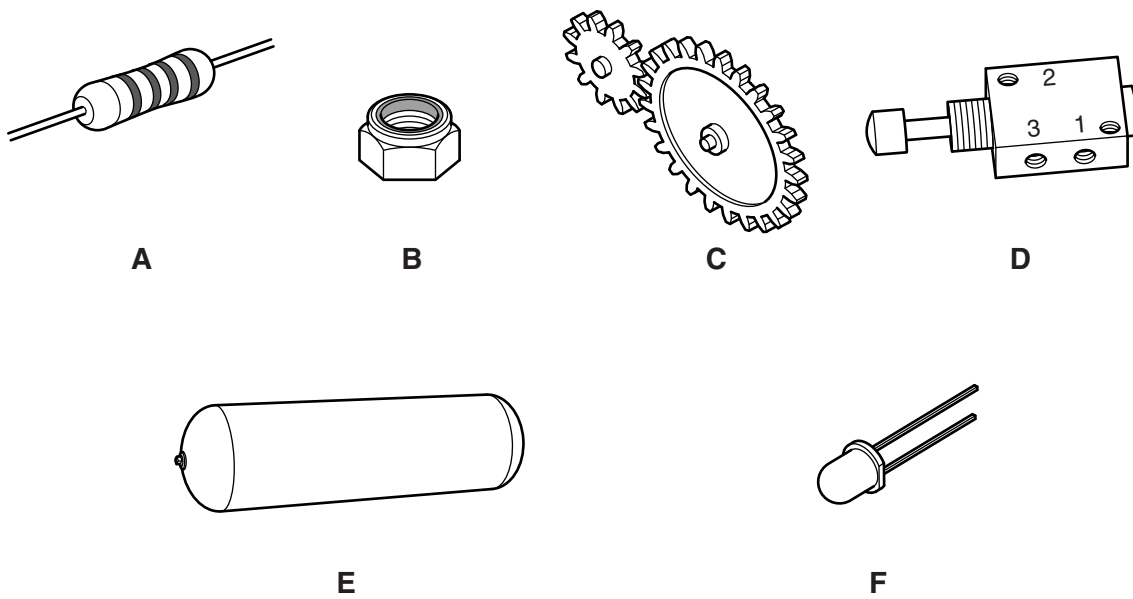

Fig. 1
4 Fig. 1 shows a number of engineering components.
- (a) Choose **two** components from Fig. 1 and, for each one, give the name of the component and a description of its function.